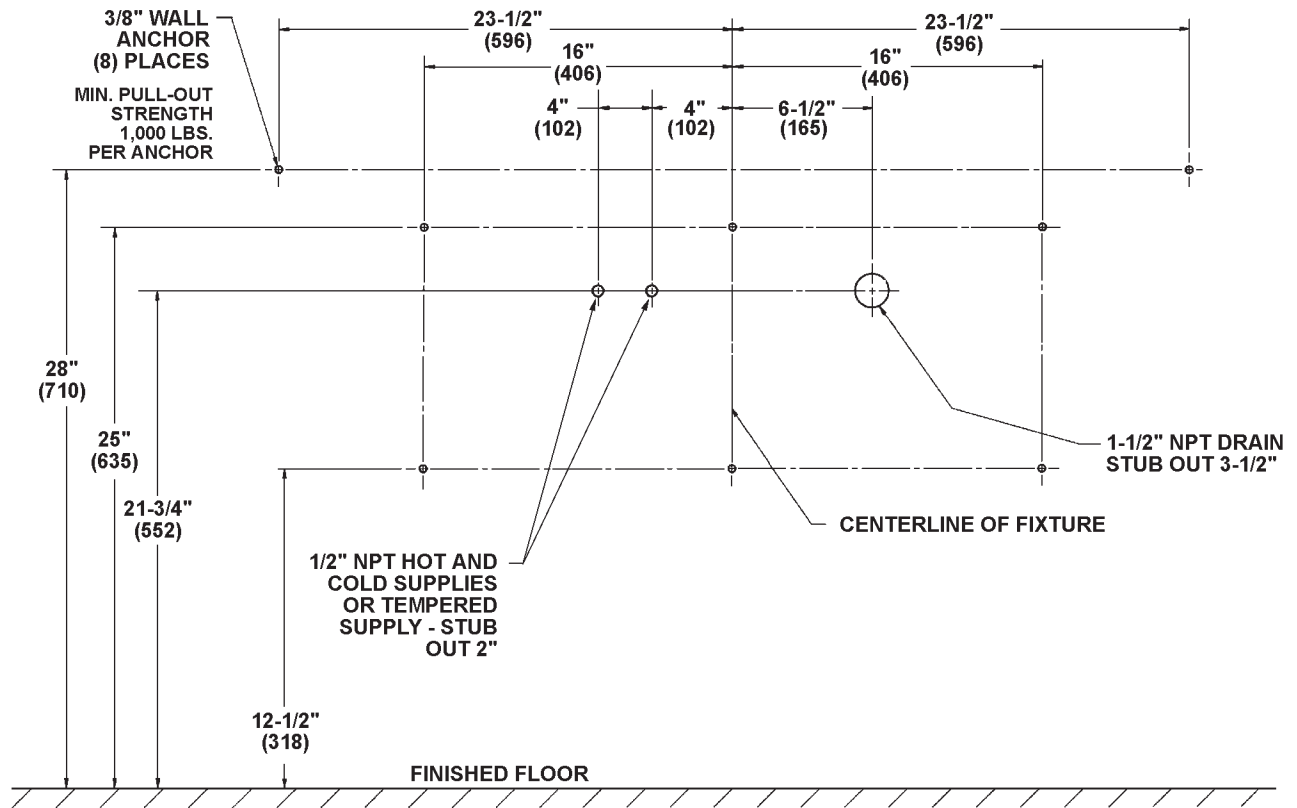

Figure 1b
Note: See Figure 1a below (for Standard Height) and Figure 1b on page 5 (for Juvenile Height) when roughing in the Express®.
3. Install eight 3/8" wall anchors with a minimum pull-out rating of 1,000 lbs. (supplied by installer) at the locations shown in Figure 1a below or Figure 1b on page 5.